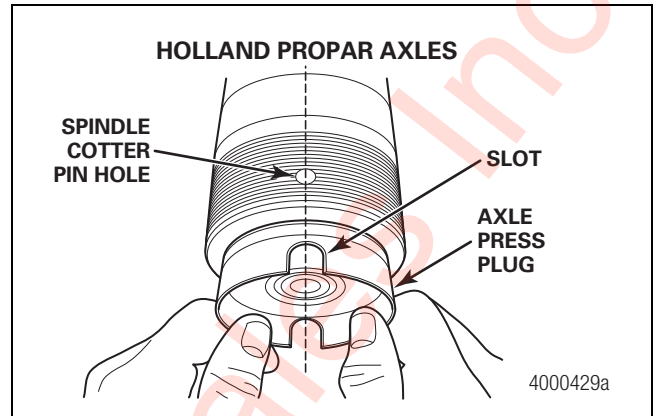

Figure 2.22
- **For Holland Propar Axles Only:** The axle press plug slots must align with the spindle cotter pin holes. Figure 2.22.